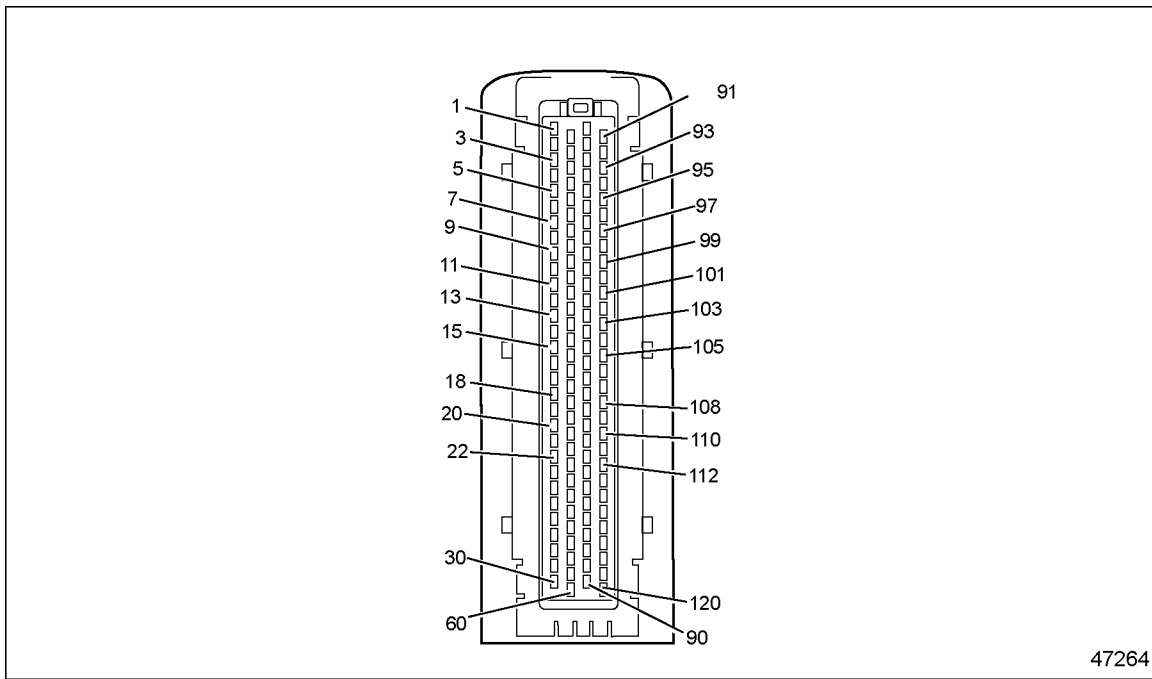

Figure 9-1 MCM Connector
- [a] If the voltage is between 2.75 and 3.25 volts, repair the open circuit between pin 1 of the ECT Sensor harness connector and pin 55 of the 120-pin MCM connector (see Figure 9-1). Refer to section 9.3.2.1.
- [b] If the voltage is less than 2.75 volts, repair the open circuit between pin 2 of the ECT Sensor harness connector and pin 110 of the 120-pin MCM connector (see Figure 9-1). Refer to section 9.3.2.1.